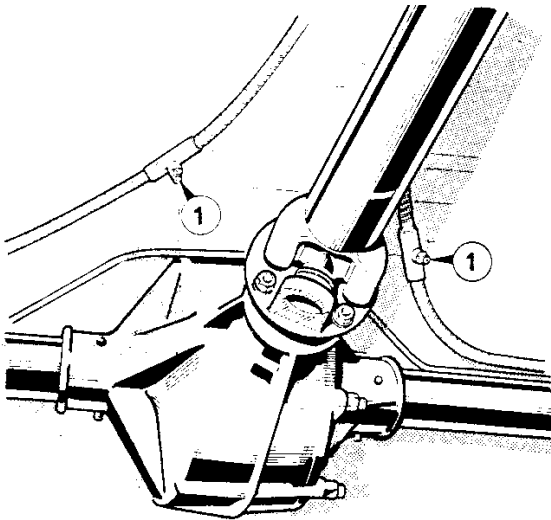

Figure 13 Handbrake cable grease nipples
2. Using a grease gun charged with a recommended lubricant, apply grease to the cable by means of the two grease nipples (figure 13) Apply grease at any area of the exposed inner cable and liberally coat the cable guides on the axle with grease to prevent the inner cable binding on the guides.